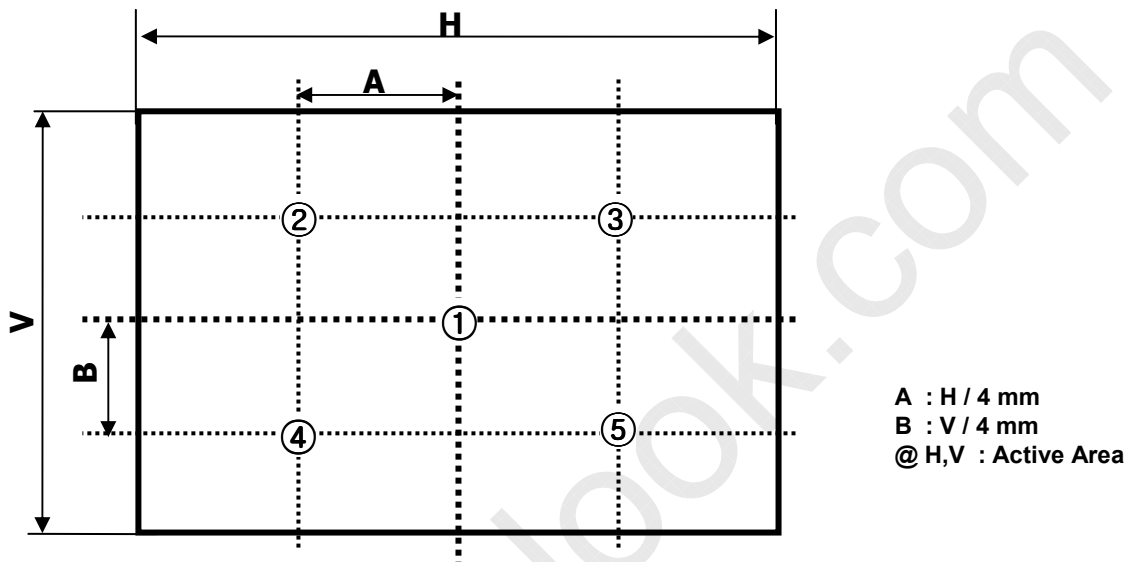

FIG. 2 5 Points for Luminance Measure
n = the Position number(1, 2, 3, 4, 5). For more information, see FIG 2.
2. Surface luminance are determined after the unit has been 'ON' and 30min after lighting the backlight in a dark environment at 25±2°C. Surface luminance is the luminance value at center 1-point across the LCD surface 50cm from the surface with all pixels displaying white. For more information see the FIG. 2.
For more information, see the FIG. 2.